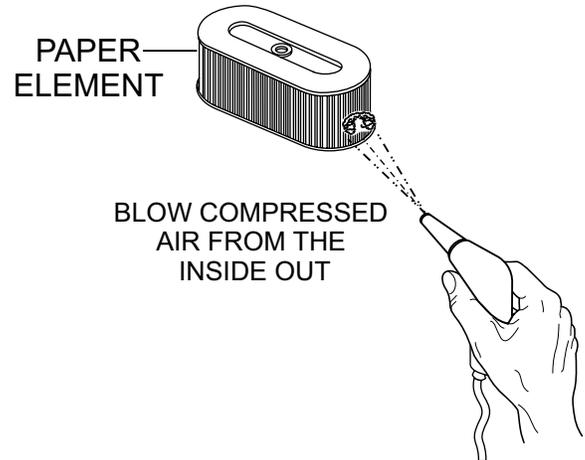

Figure 18. Cleaning Paper Element
- To clean the paper air filter element as referenced in (Figure 18), tap the filter element several times on a hard surface to remove dirt, or blow compressed air (not to exceed 30 psi (207 kPa, 2.1 kgf/cm²) through the filter element from the inside out.